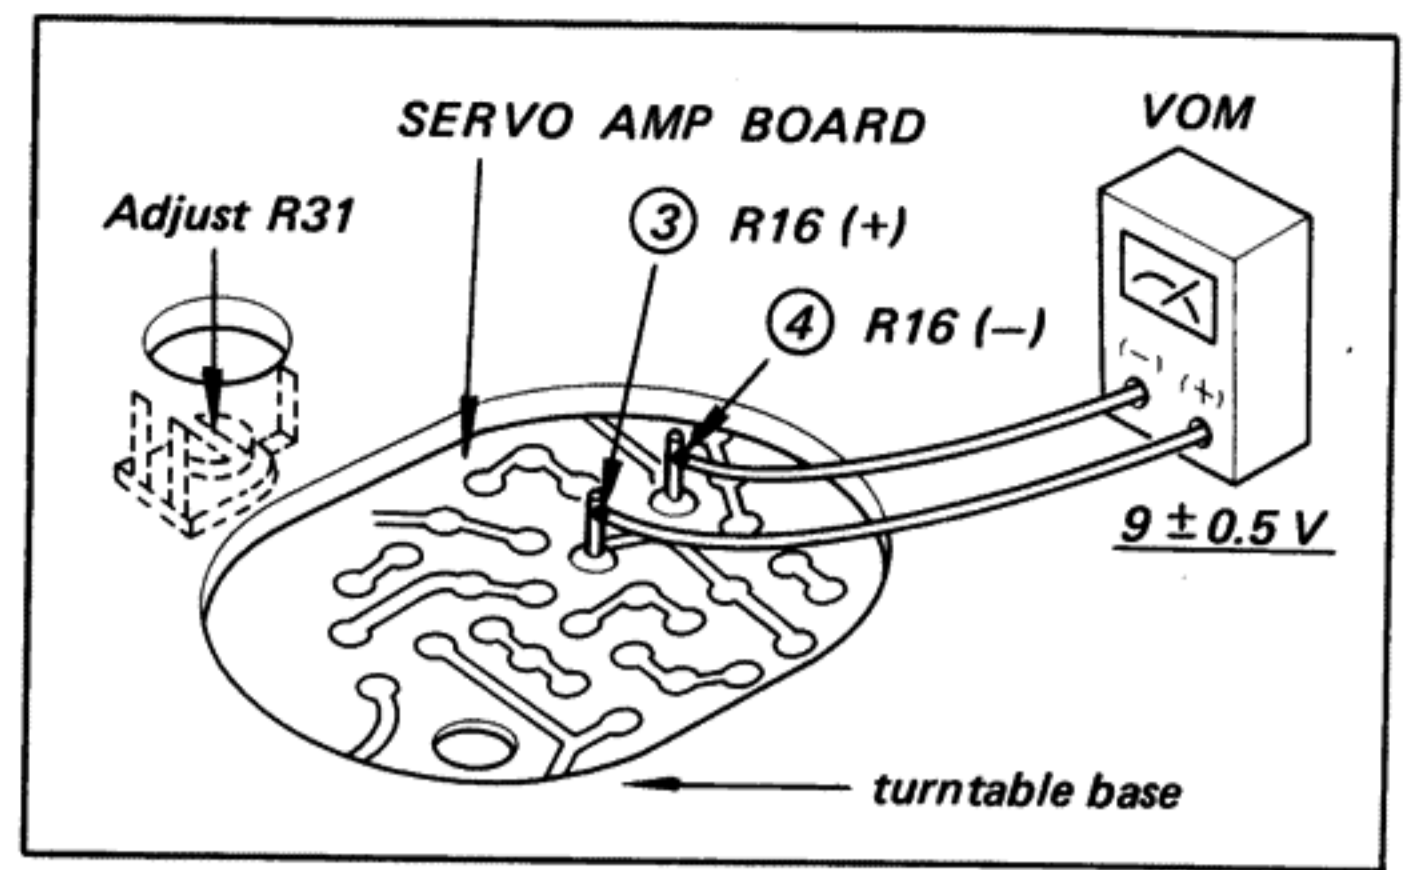

Fig. 3-9. Lamp brightness adjustment when opening shutter completely
3. Connect the VOM across R16 ③ and ④ as shown in Fig. 3-9.
5. Adjust R31 (See Fig. 3-9) so that the VOM reads  $9 \pm 0.5$  V.